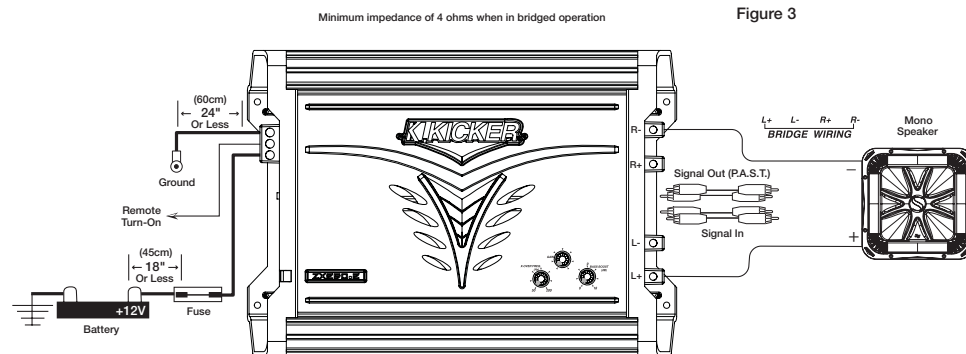

Figure 3
**Bridged Operation (Mono)** ZX.2 series amplifiers are capable of operating into a minimum impedance of 4 ohms when in bridged operation. See Figure 3.